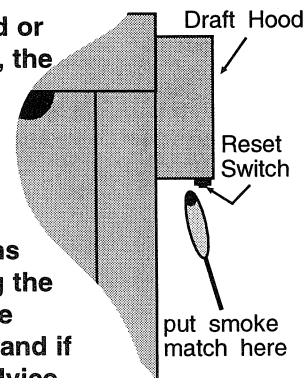

Figure 7
- 3) After five minutes, test that there is a "pull" on the flue by placing a smoke match, cigarette or similar device which gives off smoke, on the edge of the draft hood. See Figure 7.
To reset the thermally actuated safety switch, let the unit cool for 10 minutes, then press the red reset button on the underside of the switch. See Figure 7.